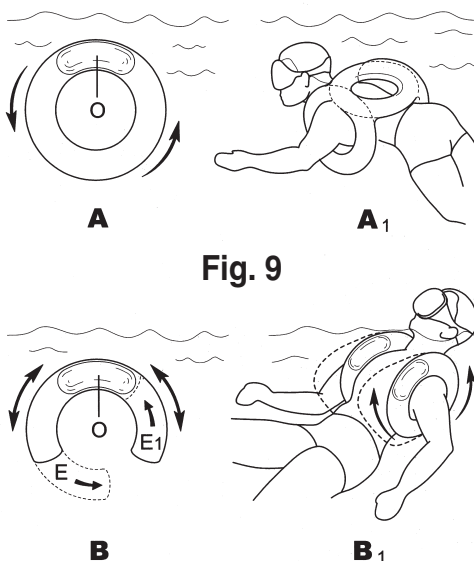

Fig. 9
Master Jacket is quite different from all other models on the market due to its “three dimensional balance” buoyancy control : regardless of the sequence of movements or in what position the movement begins underwater , the internal air bubble cannot cause rotational movements, which would destabilize the diver (fig. 9 - A).
This outcome is owed to the peculiar internal bag design, that uses three interconnecting circles or passageways, permitting the air bubble an unobstructed circulation (fig. 9 - A₁). If the ring is interrupted (fig. 9 - B), a rotation of the ring 9 itself, which would bring one of the ends (E or E₁) to the highest point (where the bubble (O) resides), would cause the rotation to stop. If the ring is not interrupted, however, the rotation can continue until it reaches the most stable configuration. This guarantees not only an unparalleled level of comfort during diving, but also a “face-up” position of the diver